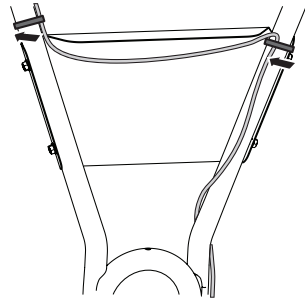

Figure 10
- Route the wire behind the panel to the left side handle, and secure it just above the upper corner of the panel with a cable tie. (Keep the wire positioned along the inside of the handle). See Figure 10.